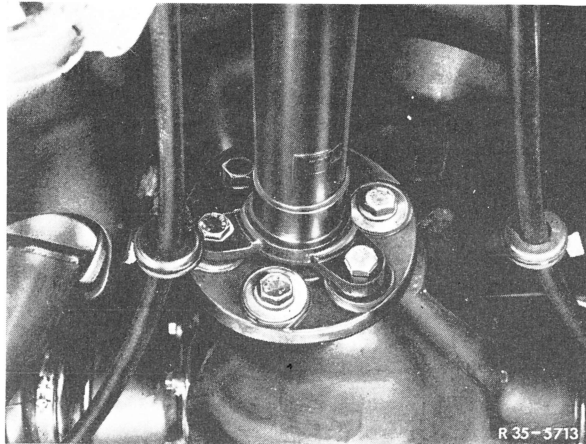

Fig. 5
- 8 Unflange propeller shaft on rear axle and push forward out of centering (Fig. 5).
22 Flange-on propeller shaft (Fig. 5).